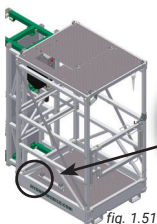

fig. 1.51
- 2- Remove the bolt assemblies on the support at the bottom of the car (fig. 1.51).